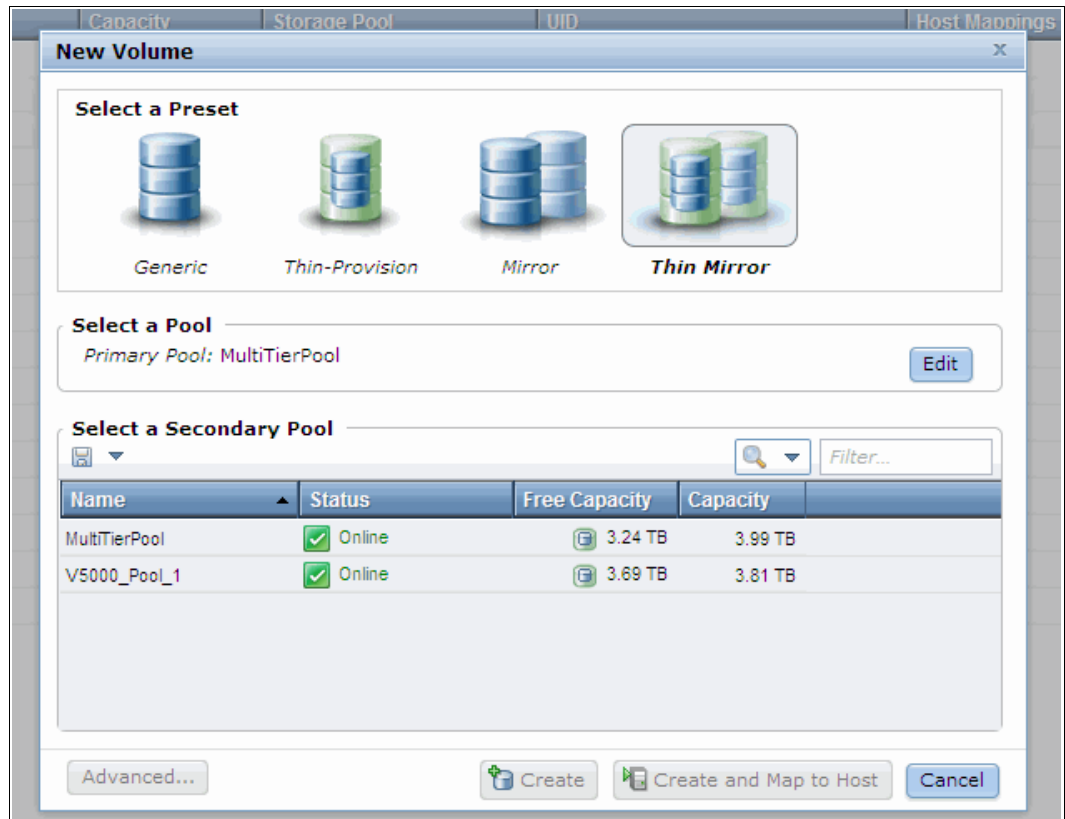

Figure 5-18 Selecting storage pools
2. Select the primary pool by clicking it and the view changes to the secondary pool, as shown in Figure 5-18.